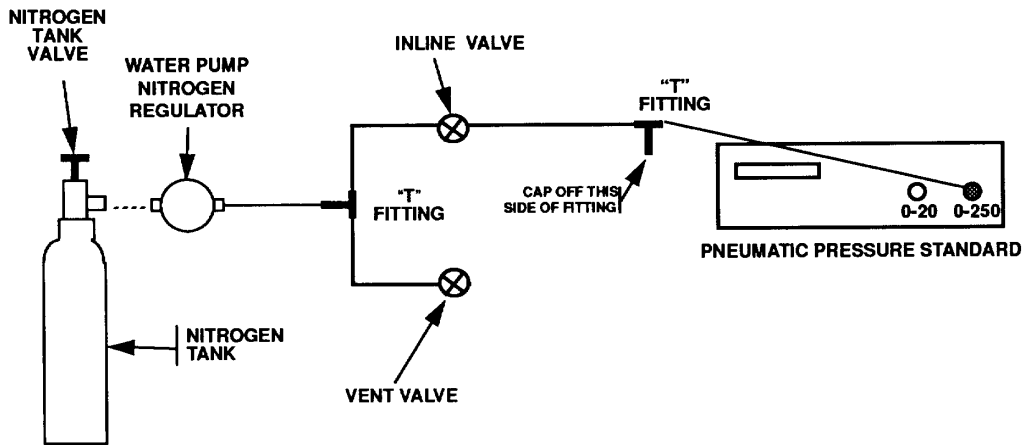

Figure 2. Leak check - equipment setup.
**b.** Connect equipment as shown in figure 2.
**c.** As shown in figure 2, connect the WATER PUMP NITROGEN REGULATOR to the NITROGEN TANK. Then from the WATER PUMP NITROGEN REGULATOR, connect to the first "T" FITTING. Then from the first "T" FITTING, connect to the INLINE VALVE. Then from the INLINE VALVE, connect to the second "T" FITTING. Then from the second "T" FITTING, connect to the 0-250 PSIA port of the PNEUMATIC PRESSURE STANDARD.
**d.** Connect the VENT VALVE (fig. 2) to the first "T" FITTING (fig. 2).
**e.** Cap off the open "T" FITTING (fig. 2) prior to connecting the TI.
**g.** Position controls on PNEUMATIC PRESSURE STANDARD (fig. 2) as indicated in (1) through (7) below:
- (1) Set power switch to **ON** and allow approximately 30 minutes for warm up.
- (2) Press **SOURCE** pushbutton to **INT**.
- (3) Set **UNITS DISPLAYED** switch to **PSIA**.
- (4) Press **RANGE** pushbutton to **0-250**.
- (5) Press **SENSITIVITY** pushbutton to **HIGH**.
- (6) Press **RESET** pushbutton.
- (7) Press **ZERO** pushbutton.
**h.** Adjust WATER PUMP NITROGEN REGULATOR (fig. 2) fully ccw.
**i.** Open the INLINE VALVE (fig. 2); close the VENT VALVE (fig. 2).
**j.** Carefully open NITROGEN TANK VALVE (fig. 2) and adjust WATER PUMP NITROGEN REGULATOR (fig. 2) for 75 psia displayed on the digital display panel of the PNEUMATIC PRESSURE STANDARD.
**k.** Close the INLINE VALVE (fig. 2) and monitor the system for approximately 5 minutes to assure that there is no loss of pressure in the system.
**1.** If there is no loss of pressure, turn off NITROGEN TANK VALVE (fig. 2) and release the pressure via the VENT VALVE (fig. 2).